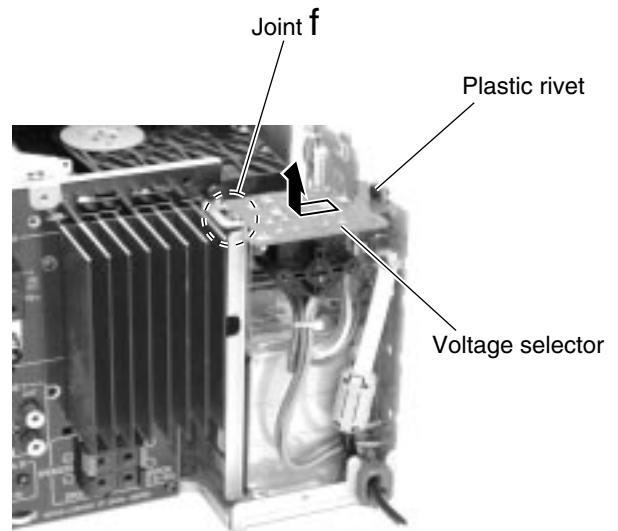

Fig.26
■ Removing the voltage selector (See Fig.26)